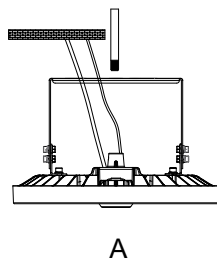

Fig 9
2. Insert 1/2" NPT stem into the bracket hole (Fig 9).